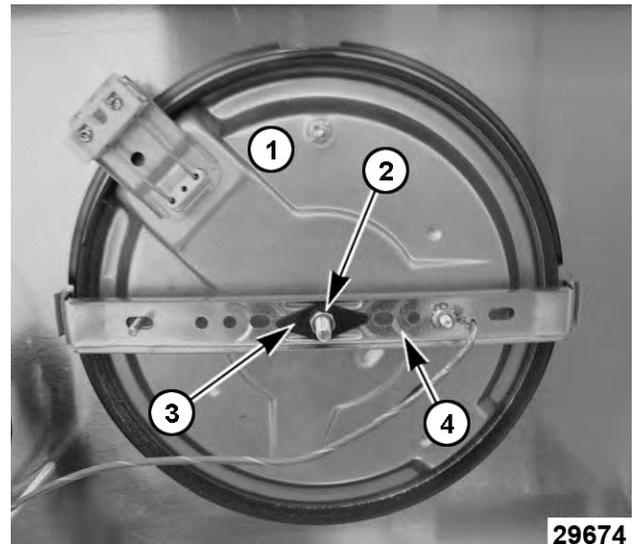

Fig. 17
3. Support the French Plate (1, Fig. 17).
- A. Remove the nut, spring washer, and locking bracket (2, 3, 4 Fig. 17).